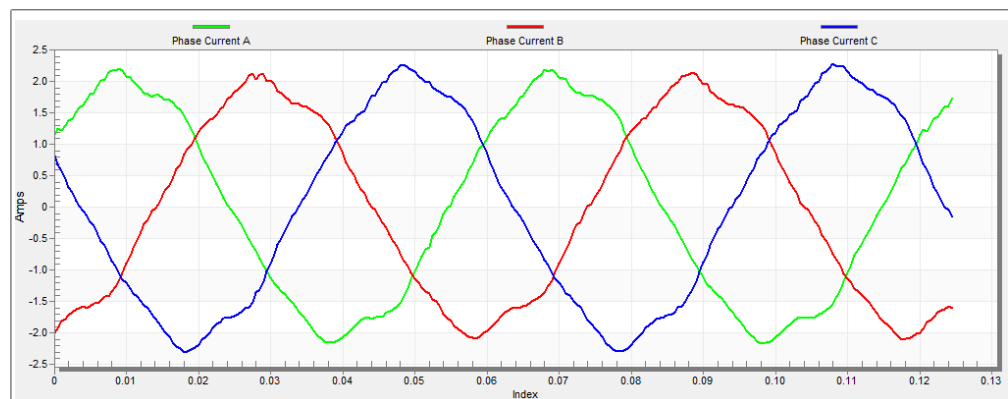

Figure 20. Phase currents
5. The optimal ratio for the V/Hz profile can be found by changing the V/Hz factor directly using the “M1 V/Hz factor” variable. The shape of the motor currents should be close to a sinusoidal shape (Figure 20). Use the following equation for calculation V/Hz factor: